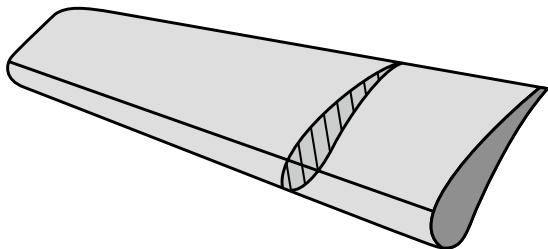

Figure 1.2 Airfoil section
1. As an aircraft is “heavier than air”, it needs an upward force to keep it aloft. This force is provided by the “lift” developed by the supporting surfaces (wings) and is directed at right angles to the direction of movement. In addition, the air offers a certain frictional resistance, called “drag”. By suitable design of the cross-sectional shape of the wing, the drag can be kept small in relation to the lift. A shape of this kind is known as an airfoil section (Figure 1.2).